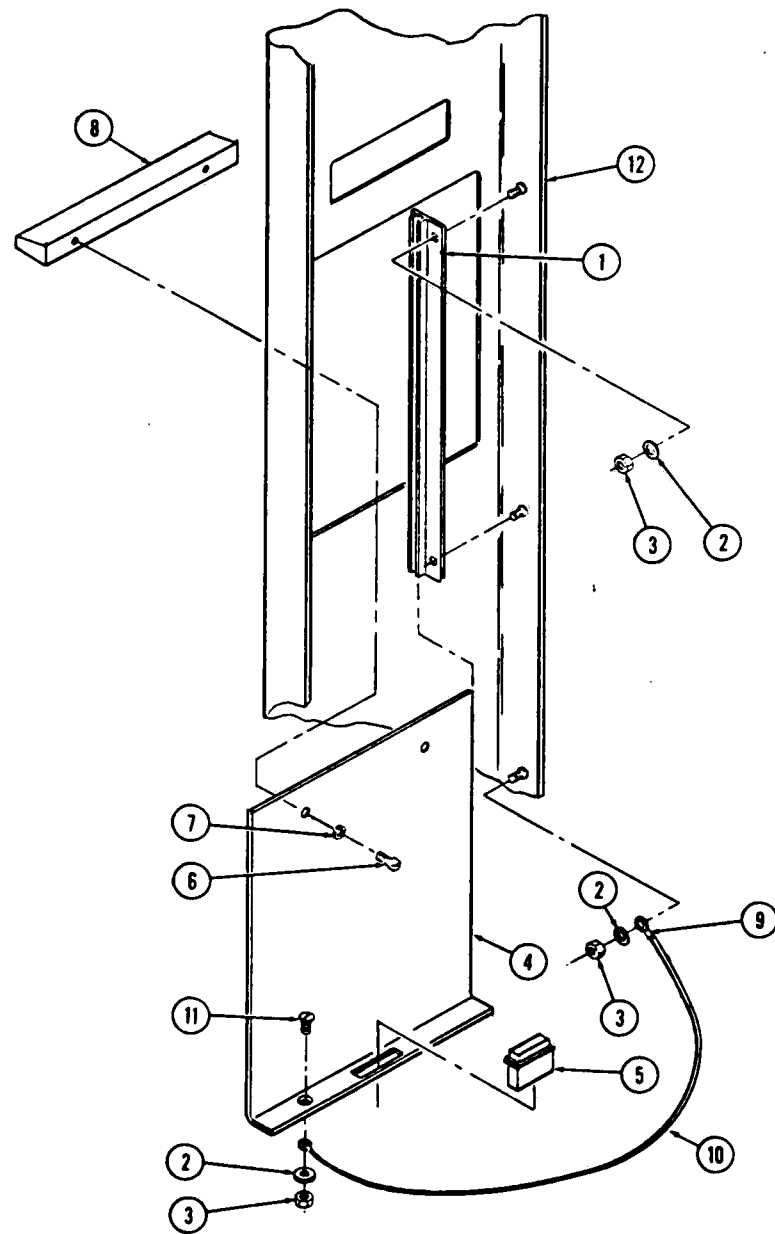

Figure 9-6. CONTROL COLUMN, Eagle 2300 (Part 3 of 3).
- Figure 9-6. CONTROL COLUMN, Eagle 2300 (Part 3 of 3).